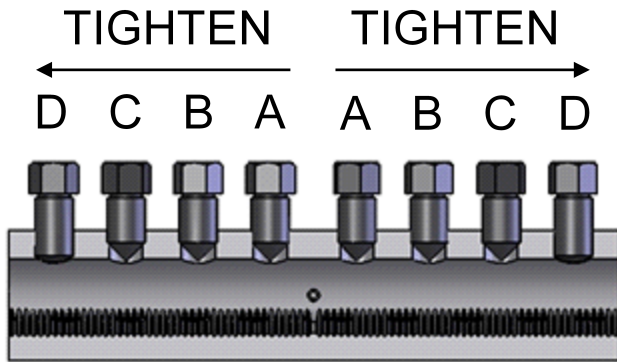

Figure 1a- B1 - Assembly cross section
Step 1: Read all instructions and procedures before commencing splicing. Ensure the nVent LENTON Lock coupler is sized properly for the bars being spliced and per project plans. Product should arrive with bolts configured as shown in Figure 1a. One round point bolt should be on each end for B1 series couplers.